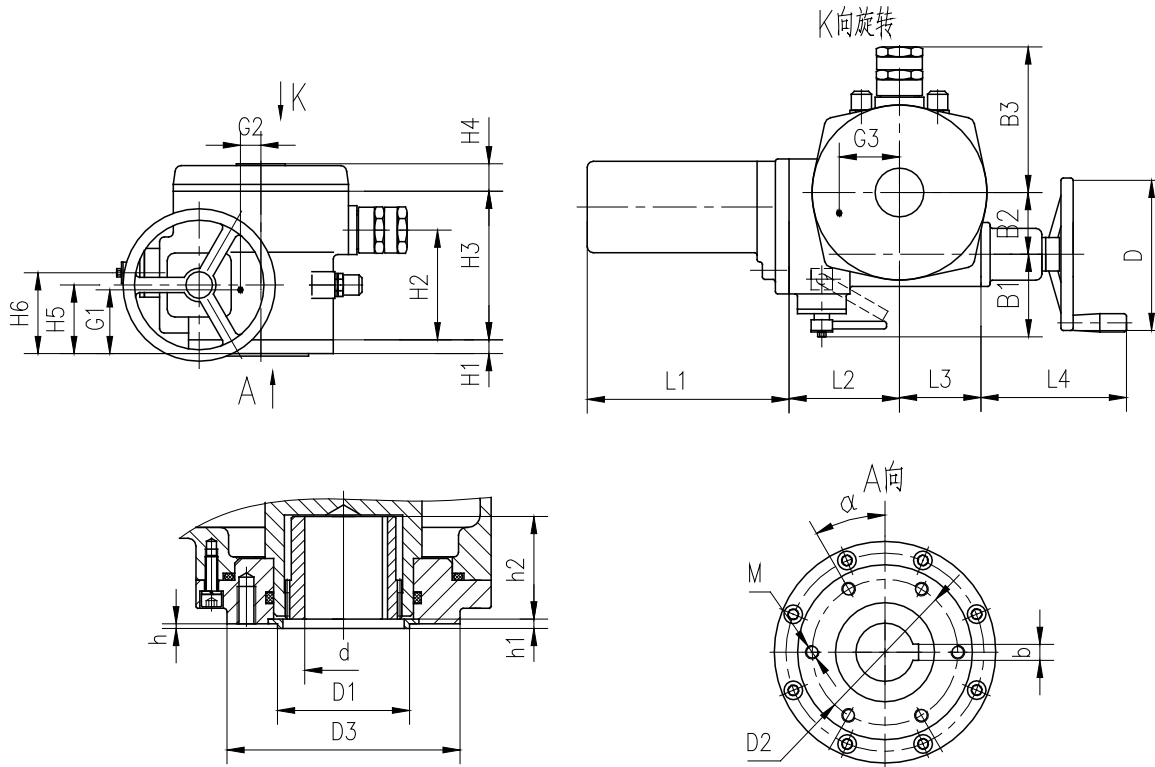

图2 外形、重心位置和连接尺寸图 Fig. 2 Profile, center of gravity and connection
Series HQB electric actuators are made up of electric motor, gear reducer, travel limit, torque limit, position indicator, auto/hand shift and handwheel (see Fig. 1 and Fig. 2). Gear reducer consists of gear pair and wormgear pair. Travel limit adopts cam mechanism and is synchronous with output shaft. Torque limit makes use of worm shaft drunkenness driving bellcrank and rocker to press microswitch and transmit signals. Position indicator is used for local valve position indicating and remote valve position signal transmitting. Auto/hand shift is semiautomatic. When hand manual operating, pull the shift lever to hand position and then operate the actuator by handwheel. When electrically operating, the shift lever will turn back to original position automatically. Do not push the shift lever back by hand. There is spline housing inside the output shaft. Users may pull the spline housing out and rotate a slight angle to reach complete seating of valve. The spline housing is not fixed inside the output shaft; it may be fixed by users with shaft shoulder of valve stem or with holding screw
2) The location of auto/hand shift on HQB200~HQB400 is indicated by dash line in Fig. 2.